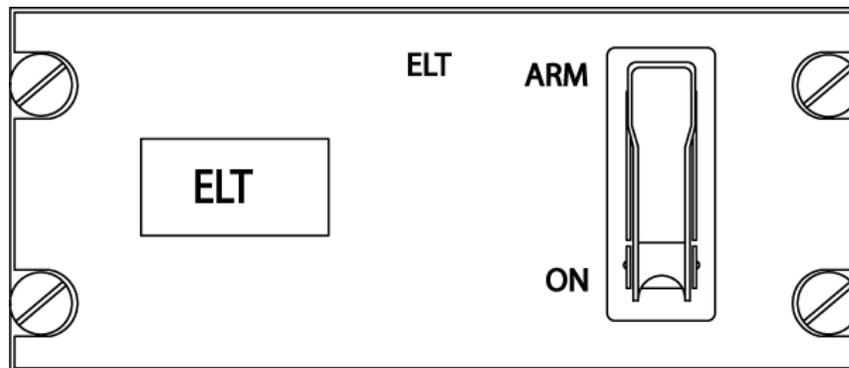

Figure 32 Remote Switch Control Panel Assembly
- 1) The control panel is backlit panel comprised of an ELT status indicator light and a control switch, which allows an operator to manually activate the ELT for testing and reset (i.e., deactivate) the ELT. See Figure 32 Remote Switch Control Panel Assembly.